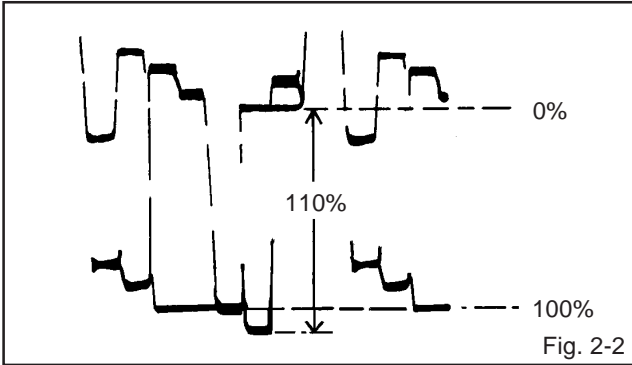

Fig. 2-2
7. Press the VOL. UP/DOWN button on the remote control until the red color level is adjusted to 100% of the white level. (Refer to Fig. 2-2)